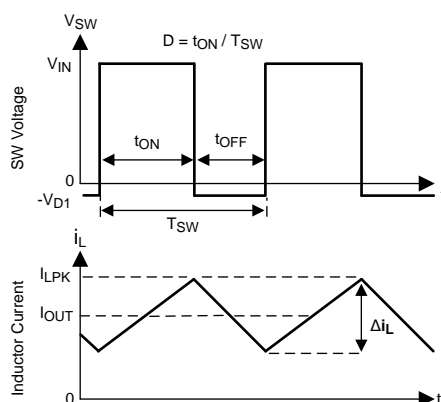

Figure 33. SW Node and Inductor Current Waveforms in Continuous Conduction Mode (CCM)
The following operating description of the LM46001-Q1 will refer to the Functional Block Diagram and to the waveforms in Figure 33. The LM46001-Q1 is a step-down Buck regulator with both high-side (HS) switch and low-side (LS) switch (synchronous rectifier) integrated. The LM46001-Q1 supplies a regulated output voltage by turning on the HS and LS NMOS switches with controlled ON time. During the HS switch ON time, the SW pin voltage V_{SW} swings up to approximately V_{IN} , and the inductor current I_L increases with a linear slope $(V_{IN} - V_{OUT}) / L$. When the HS switch is turned off by the control logic, the LS switch is turned on after a anti-shoot-through dead time. Inductor current discharges through the LS switch with a slope of $-V_{OUT} / L$. The control parameter of Buck converters are defined as Duty Cycle $D = t_{ON} / T_{SW}$, where t_{ON} is the HS switch ON time and T_{SW} is the switching period. The regulator control loop maintains a constant output voltage by adjusting the duty cycle D . In an ideal Buck converter, where losses are ignored, D is proportional to the output voltage and inversely proportional to the input voltage: $D = V_{OUT} / V_{IN}$.